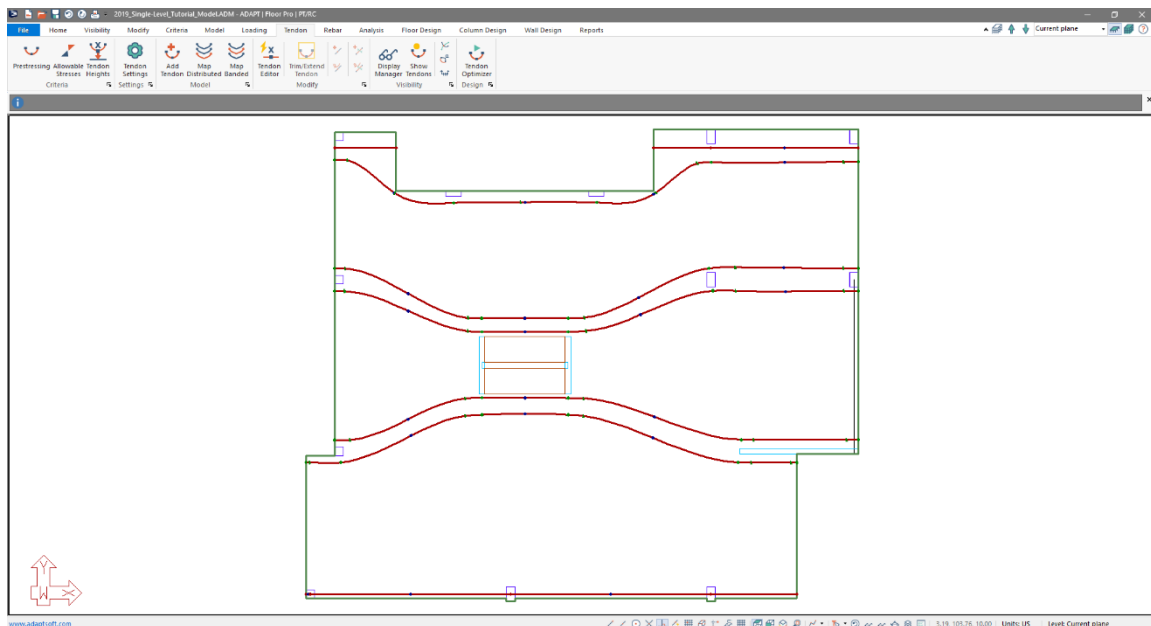

Figure 8-24
- When finished the user should have all the preliminary banded tendons modeled. Click on the *Top View*  icon in the **Bottom Quick Access Toolbar**. This will bring you to the view of the model shown in **FIGURE 8-24**.